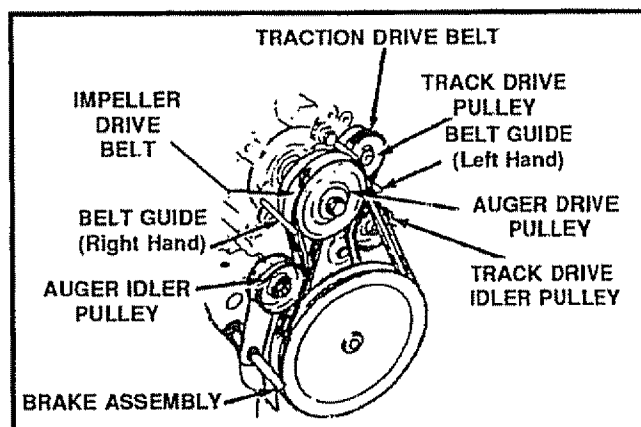

FIG. 27
- Engage the auger drive lever. This will pull the brake assembly (See Fig. 27) away from the pulley and allow the belt to be slipped out.
- Loosen the left hand belt guide (See Fig. 27) mounting screw and move the belt guide away from the belt.
- Pull the track drive idler pulley (See Fig. 27) back and slip the belt past the idler pulley.